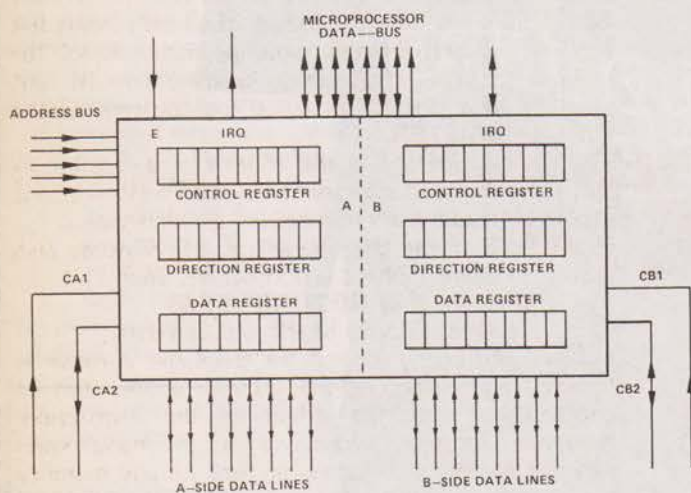

Figure 3 The Motorola PIA.
- INTERNAL ADDRESS wires** to select a particular location, the number of them depending on the memory capacity. Thus the RAM shown in Figure 3 has seven, allowing 128 different address codes. They are labelled  $A_0$  to  $A_6$  and connected to the corresponding lower-order address lines on the microprocessor address bus. The ROM requires ten internal address wires, labelled  $A_0$  to  $A_9$  in order to select any one of 1024 address codes. These are also connected to the corresponding lower-order lines on the address bus.
Figure 3 shows the interface presented to peripherals by the Motorola PIA, which is a good example of a memory mapped I/O port.